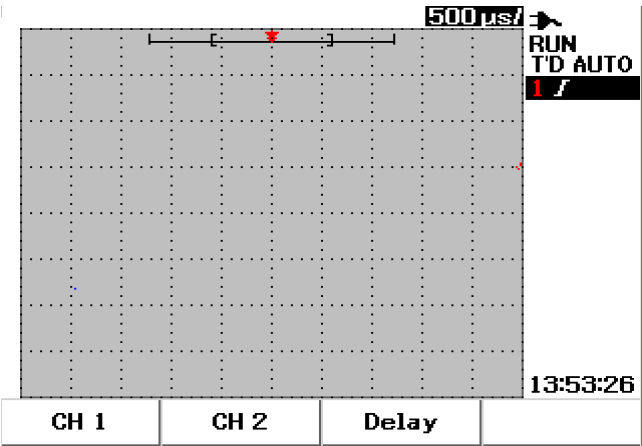

Figure 3-1 Scope menu display with displayed of both channels display.
- 1 Press **Scope** button on front panel to access Scope menu. You will see the following scope menu display in Figure 3-1., which shows both channels disabled.